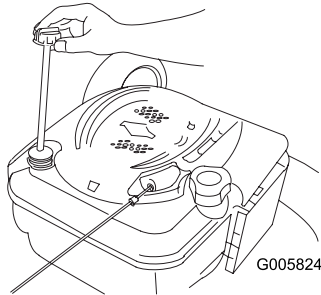

Figure 23
2. Remove the dipstick (Figure 23).